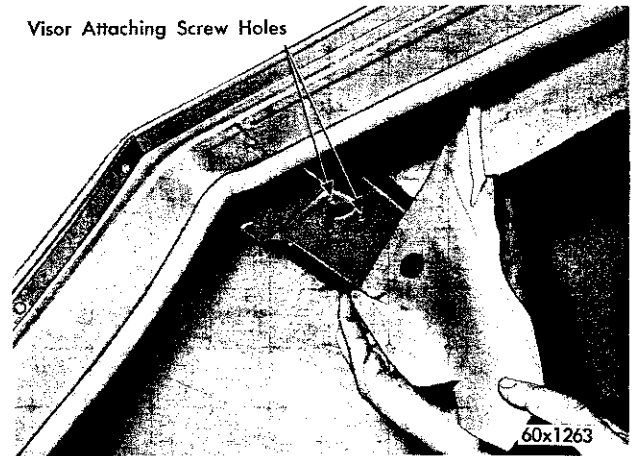

Fig. 44—Visor Attaching Holes
(7) Cut holes in the headlining for the visor (Fig. 44) retaining screws and pivot.
(8) Install the visors before tucking in the corners of the headlining at the top of the windshield posts to prevent tearing the headlining when tightening the screws.
(9) Install the garnish mouldings.